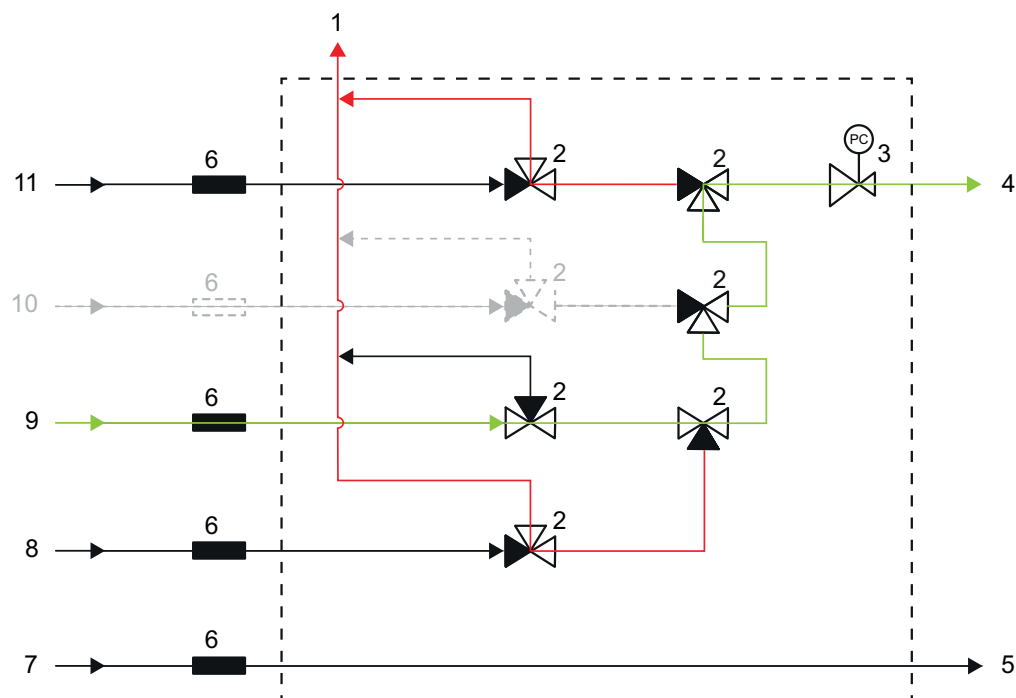
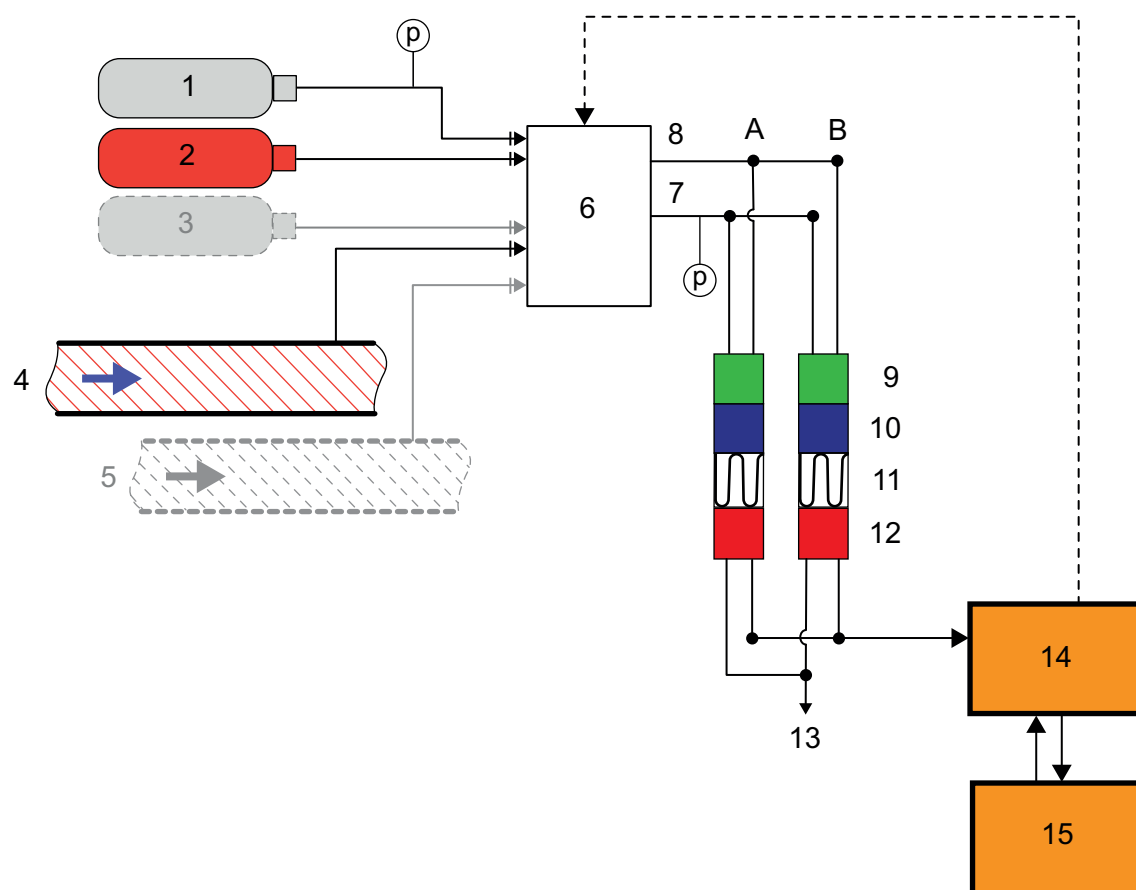

Fig. 7: Gas distribution (schematic diagram)
Fig. 8: Block diagram of the gas chromatograph
What is known as the 'double block and bleed' valve arrangement was chosen to avoid contamination of the selected gas stream by potential valve leakages (see fig. 7).
In fig. 7, the calibration gas is connected (shown in green) and it can be seen that the volumes between the valves of the other gas streams are vented to the atmosphere (shown in red). Any leaks that occur cannot, therefore, contaminate the analysis gas stream.
The fig. 8 below shows the functional design of the gas chromatograph as a block diagram.
A gas sample is taken from the process line by means of a sampling probe (fig. 8, no. 4) and fed into the gas distribution (fig. 8, no. 6). Depending on the requirement (e.g. analysis or calibration), one of the following four gas inlets is connected towards column modules A and B by means of control valves (a 'double block and bleed' valve unit; see fig. 7):
- Sample gas 1 (fig. 8, no. 4)
- Sample gas 2 (optional) (fig. 8, no. 5)
- Calibration gas (fig. 8, no. 2)
- Reference gas or ext. Test gas (optional) (fig. 8, no. 3)
Before the sample to be analysed is fed to the column modules, a pressure reduction (fig. 7, no. 3) takes place to ensure a defined pressure in the column modules. (A gas dryer may also be provided as an option).
In addition, the carrier gas (fig. 8, no. 1) is supplied to the column modules via the gas distribution. The carrier gas pressure must be set directly at the carrier gas cylinder's pressure regulation, as no further pressure regulators are installed.
Although the individual column modules also have pressure regulation (fig. 8, no. 9) for setting the carrier gas pressure, its sole purpose is to keep the carrier gas pressure constant for the analysis so as to ensure consistent analysis results. The carrier gas pressure cannot be adjusted here.
A precisely defined amount of the gas to be analysed is fed to the separation columns (fig. 8, no. 11) by means of the injector (fig. 8, no. 10). This sample is passed through the separation columns by the carrier gas, which constitutes what is known as the 'mobile phase'.
A thermal conductivity detector (fig. 8, no. 12) detects the exit of the components. A signal of varying length and height is thus generated for each component (a 'peak'). The area under the signal curve is a measure for the corresponding mole fraction.